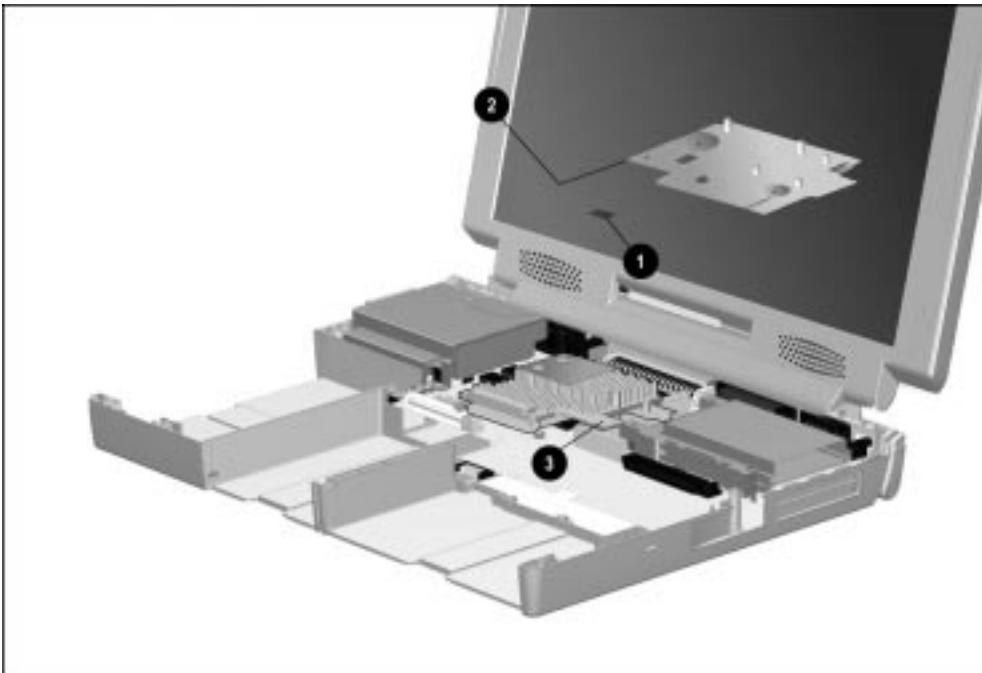

Figure 5-42. Location of Thermal Pad on the Processor Module Assembly
When the audio assembly bracket is removed, the thermal pad ❶ that separates the bracket from the processor module assembly can leave residue on the underside of the audio assembly bracket ❷ and the top of the heat sink on the processor module assembly ❸ (Figure 5-42).